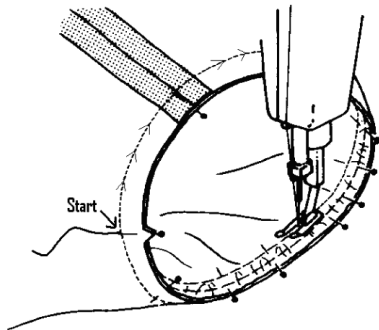

Figure 13
6. Position the garment and sleeve under the machine presser foot, the sleeve side up toward you. Starting at the notch, stitch on the seam line crossing underarm seam, from notch to notch, and around the sleeve. Continue stitching to the opposite notch, creating a double line of stitching along the underarm area (Figure 13).